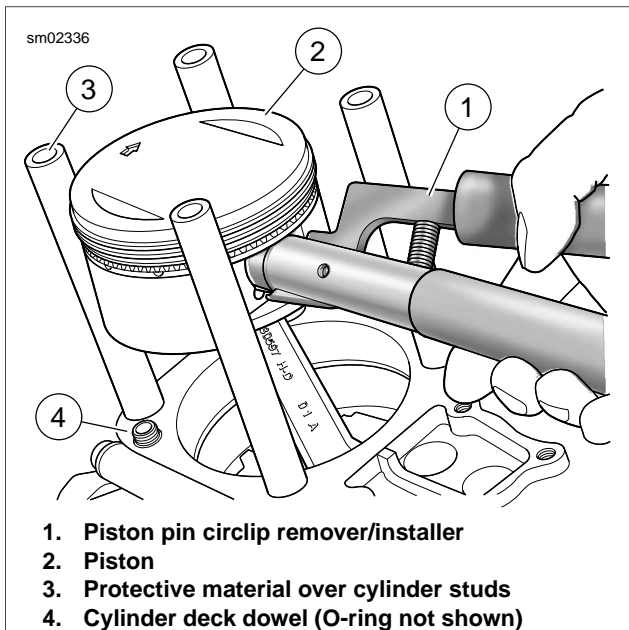

Figure 3-28. Piston Pin Circlip Removal (Part No. HD-42317)
6. See Figure 3-28. Remove o-ring from dowel pin (4) on base of cylinder deck. Discard o-ring.
2. See Figure 3-28. Remove the piston pin circlip.
- a. Insert the PISTON PIN CIRCLIP REMOVER/INSTALLER (Part No. HD-42317-A) (1) into the piston pin bore. Position claw on tool in slot of piston (2) (directly under circlip).